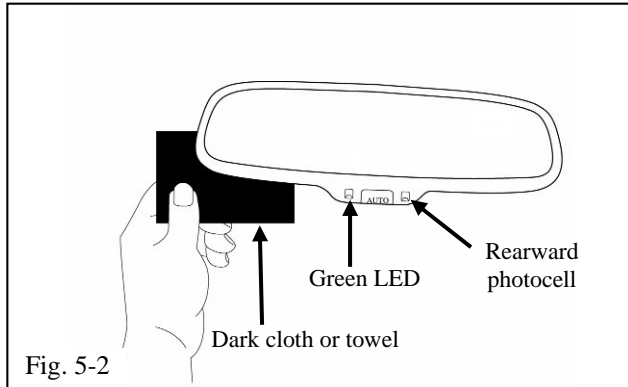

Fig. 5-2
- (1) To make sure the auto-dimming feature is on, verify that the LED indicator light is on. If it is not on, push the “On/Off” button for 3 seconds, or until the LED is illuminated.
- (2) Cover the forward-looking light sensor located on the back of the mirror with a dark cloth or towel (Fig. 5-2).
- (3) In a few seconds, the mirror will begin to darken (the amount of time may vary with ambient light levels).
- (4) Remove the cover from the forward-looking light sensor and the mirror will begin to clear.